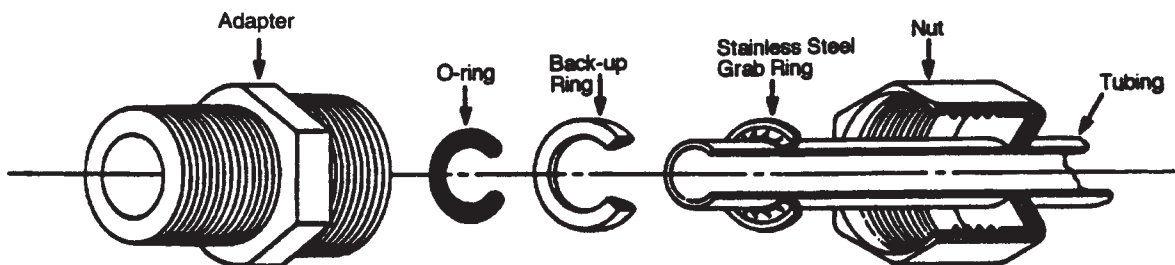
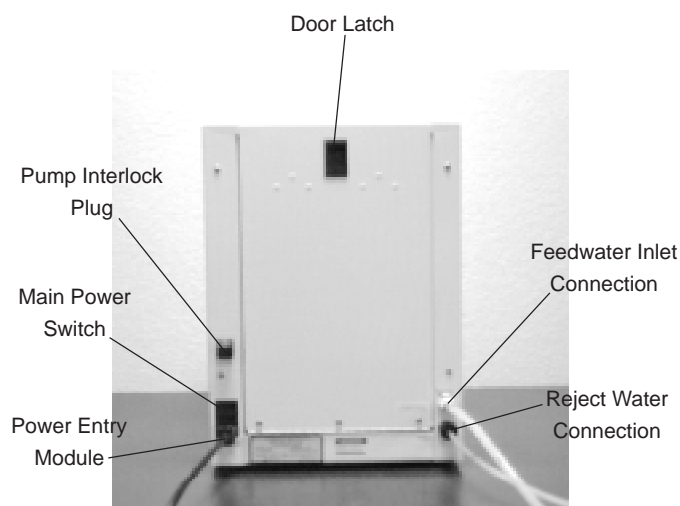

Figure 3: Typical Polypropylene Tubing Adapter Installation
Figure 8: EASYpure UV/UF Connections
1. Completely disassemble the fitting. Refer to Figure 3 to familiarize yourself with the names of the component parts.
3. Place the grab ring and back-up ring in the hex nut in the order and orientation shown in Figure 3. Thread the nut onto the adapter. DO NOT use the o-ring at this time.
1. Locate the reject water tubing. This is the piece of 1/4" O.D. tubing that has an adapter on one end and no connector on the other end. Remove the nut, grab ring, backup ring and o-ring from the reject water fitting located at the lower right of the unit. (See Figure 3 for part identification and Figure 8 for fitting location.)